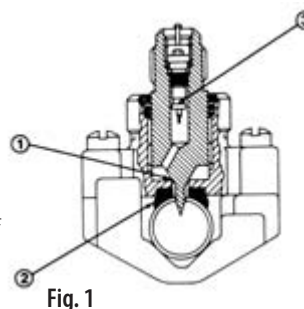

Fig. 1
Three-point sealing [in Fig. 1: (1) needle-type valve, (2) gasket and (3) check valve] prevents leakage. Neoprene seal withstands temperatures near 300°F.